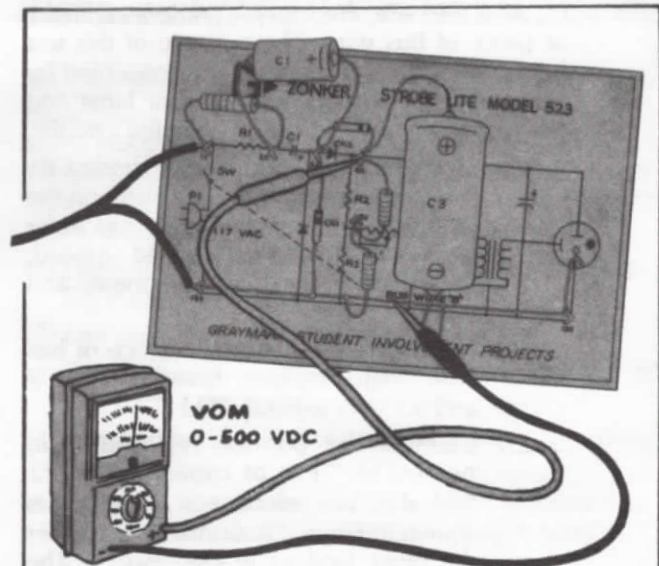

FIG. 23
- _____i. With the clip lead or wire removed from pins 2 and 3, reconnect the anode lead of diode CR1 to bus wire B. (Refer to Figure 23.)